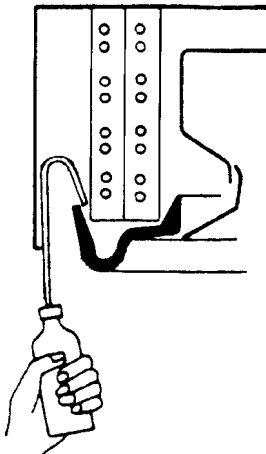

Fig. 14 — Inserting Water into Drain Pan
- b. On the opposite side of the drain connection, insert a water bottle up into the fan coil unit and fill drain pan. Refer to Fig. 14. Water must flow regularly with condensate pump energized. If water does not, check the pipe slope or see if there are any pipe restrictions.